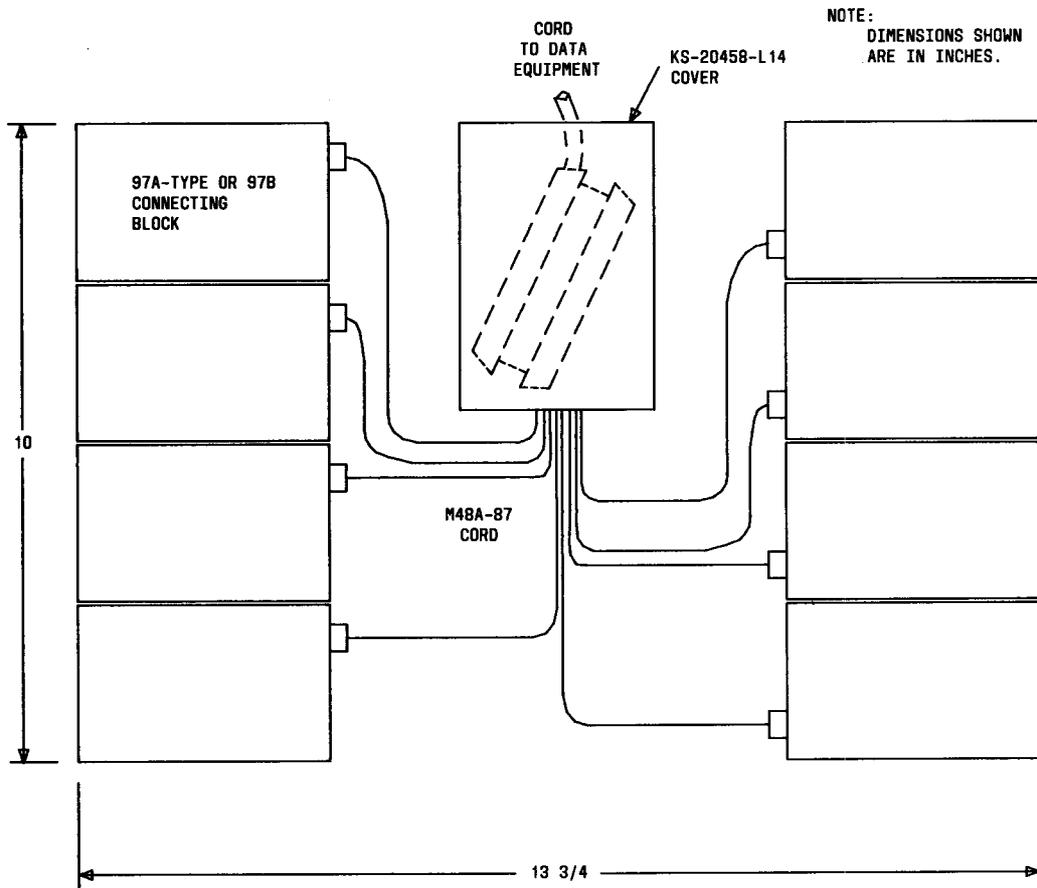

Fig. 18—Wall-Mounting Data Jacks and Adapter Cord
3.11 A wall-mounted arrangement similar to that described in paragraph 3.10 but using an M48A-87 cord and a KS-20458,L14 cover to provide a 50-position interface is shown in Fig. 18.